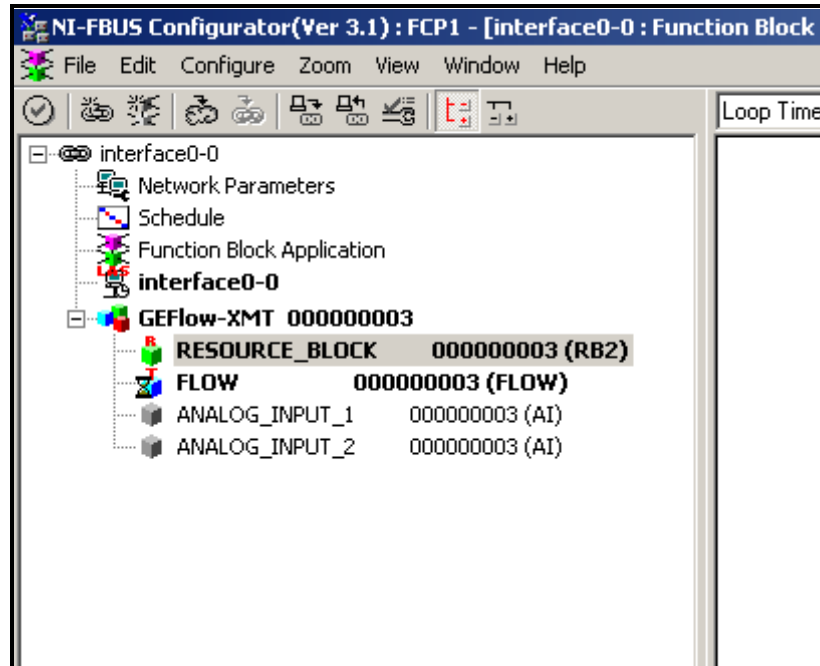

Figure 37: Configuration Utility Setup Example
Figure 37 shows the Configuration Utility with a flowmeter on the network (Panametrics Flow-XMT).
1. Double click on the AI block for which you wish to set the units (ANALOG_INPUT_1 or ANALOG_INPUT_2 in the tree under GEFlow-XMT; see Figure 37 on page 40).
1. Double click on the FLOW transducer block (in the tree under GEFlow-XMT; see Figure 37 on page 40).